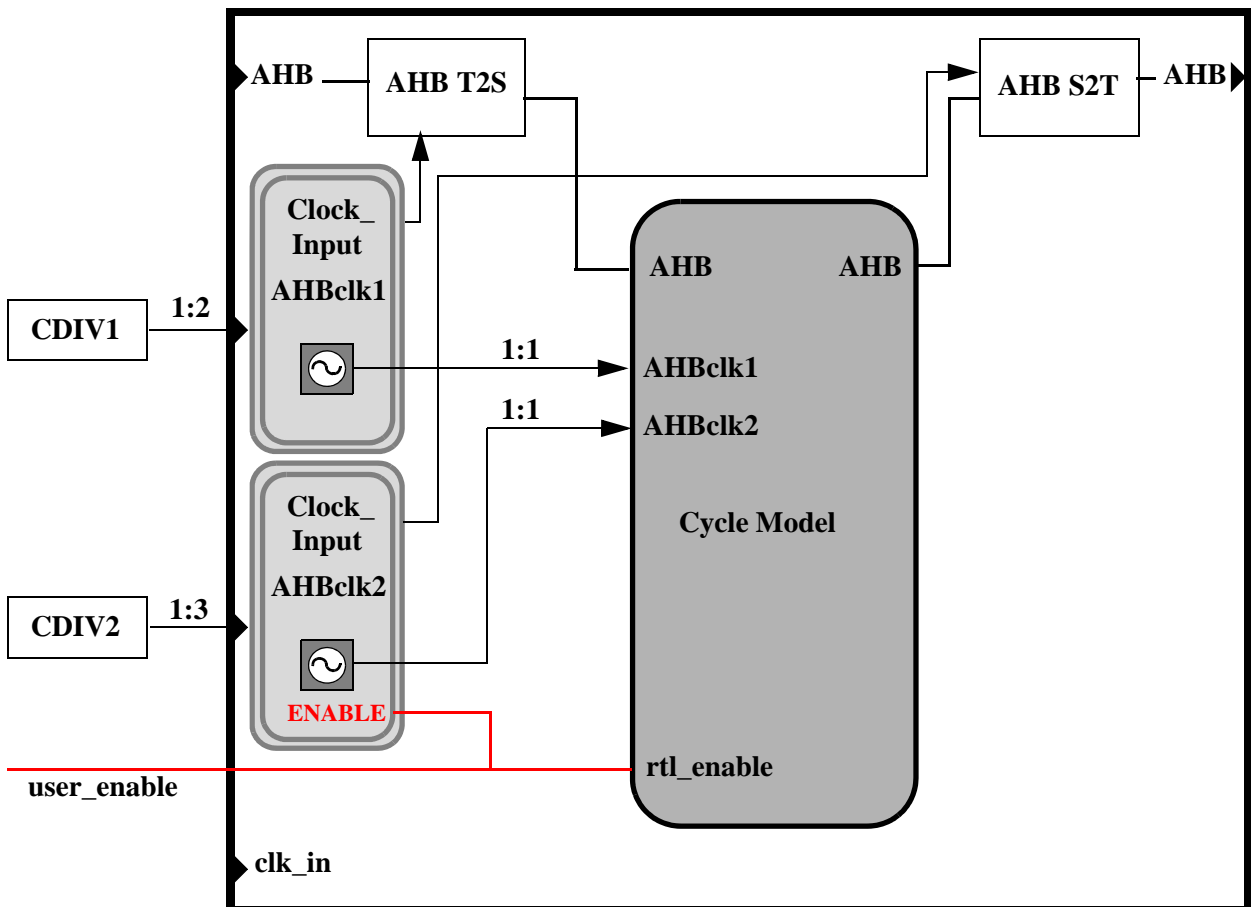

Figure A-4 Use of the Enable pin
1. Create a top-level component signal slave port to act as the Enable for the Clock\_Input (in Figure A-4, **user\_enable** is the signal slave port).
2. Connect the new signal slave port to a scalar enable input signal to the RTL. This requires the RTL to use the Enable signal to qualify execution of the RTL code. In Figure A-4, the RTL signal is named **rtl\_enable**.
3. Drive the top-level Enable signal (**user\_enable** in Figure A-4) from the SoCD Canvas.